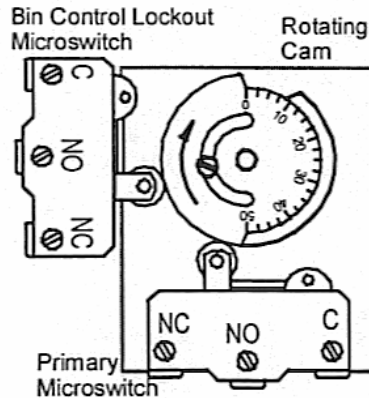

Figure 1 - Ice Maker Cycle Timer
- Check that cycle timer cam turns. Refer to Figure 1.
- Check that micro-switches on cycle timer operate (contacts make and break) and that roller guides are centered on edge of cam. The switch on bottom puts ice maker into harvest and the switch on left side shuts ice maker down when bin is full or has been switched off. Refer to Figure 1.